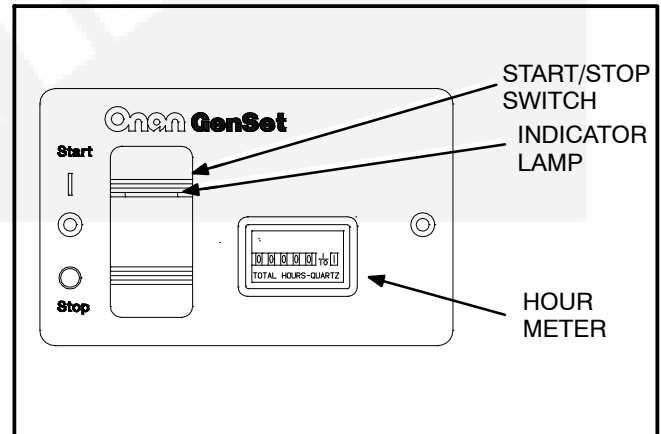

FIGURE 8-4. REMOTE PANEL WITH START/STOP SWITCH AND HOUR METER
- Remote panel with start/stop switch, indicator lamp, and hour (elapsed time) meter (see Figure 8-4).